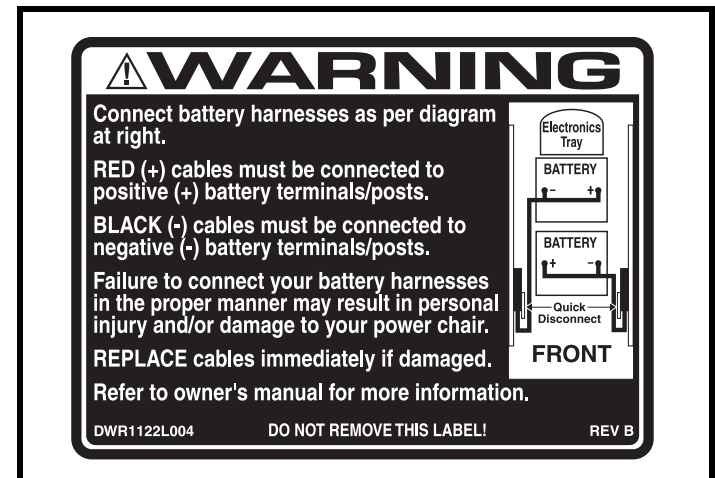

Figure 35. 1121 Battery Wiring Diagram Label
10. Connect the battery quick disconnects according to the battery wiring diagram label. **See figure 35.**